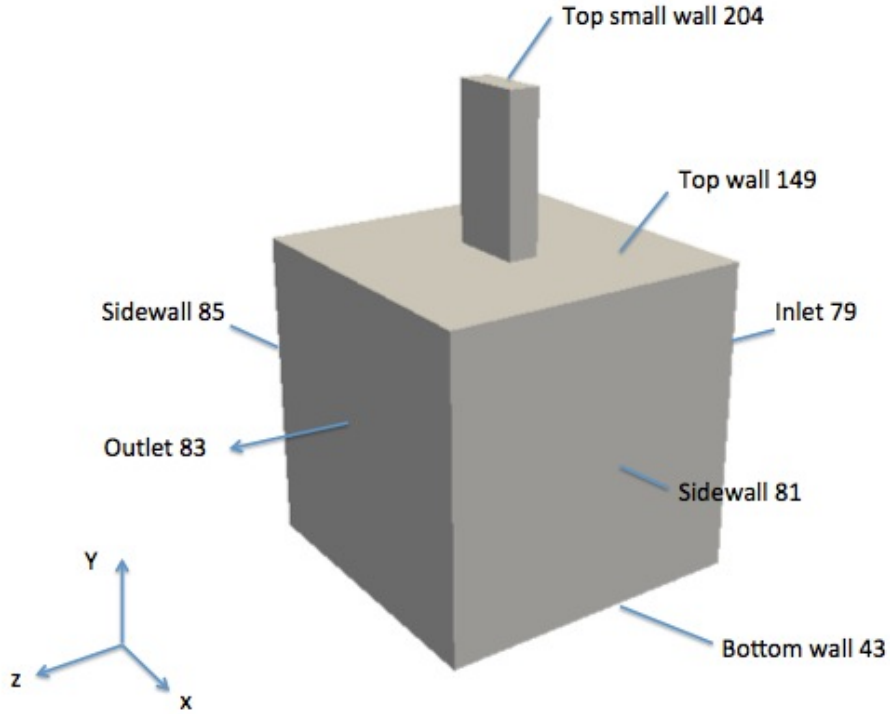

Figure 1: Test case problem
Figure 1 depicts an incompressible flow problem that will be solved with DES(detached eddy simulation). The governing equations are incompressible Navier-stokes(NS) equations and a turbulent viscosity transport equation.